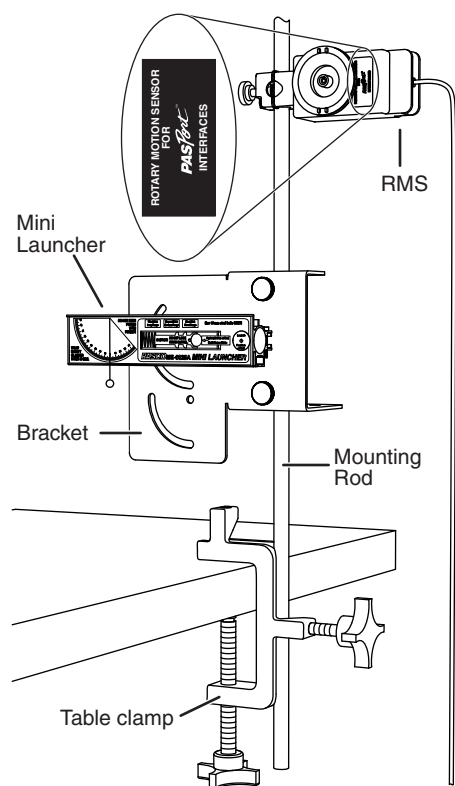

Figure 1: Launcher and RMS mounted on rod
1. Set up the mini launcher, bracket, table clamp, mounting rod, and RMS as shown in Figure 1. The exact position of the RMS is not important yet. Note that the side of the RMS *without* the model number on the label is facing you. (If the RMS is mounted the other way, it will measure negative displacement.)